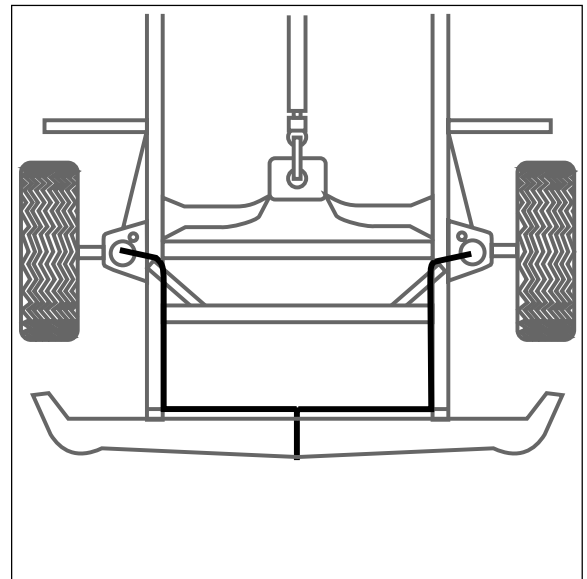
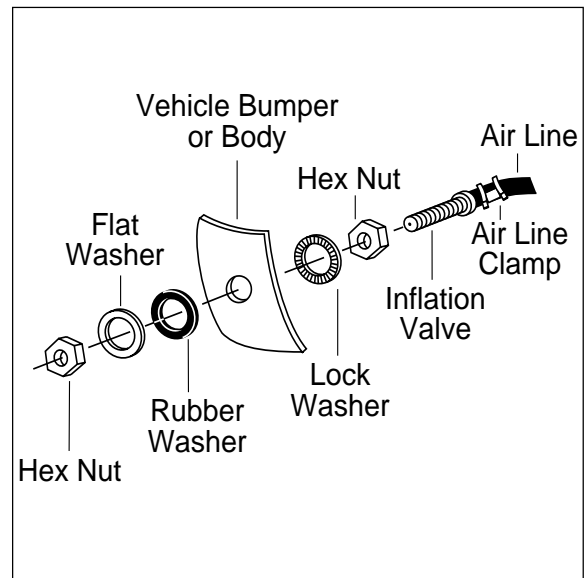

Figure 6
Figure 7
- (8) Push the remaining air line over the last fitting on tee and route along frame to desired inflation valve location (Figure 6). Attach with plastic straps or wire.
- (9) Select a location for inflation valve in the gas cap well, the trunk, rear bumper, fender flange or behind the license plate, assuring that the valve will be protected and accessible with an air hose.
- (10) Drill a $\frac{5}{16}$ " hole for inflation valve and mount as in illustration (Figure 7). Rubber washer is for outside weather seal.
- (6) Repeat process for right side.
- (7) Drill $\frac{5}{16}$ " hole for inflation valves and mount as illustrated. Rubber washer is for outside weather seal (Figure 7).
- (8) Route air line along control arm and frame to inflation valve location and cut off excess.